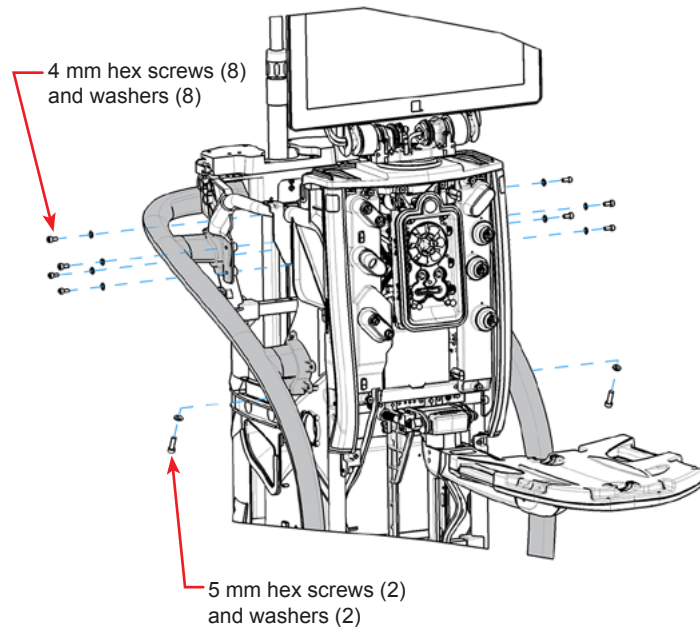

Figure 3-8 Handle Removal - Upper Screws
- 16.6 Remove eight 4 mm hex screws and washers securing upper rear Handle mounts (left and right sides - see Figure 3-8).